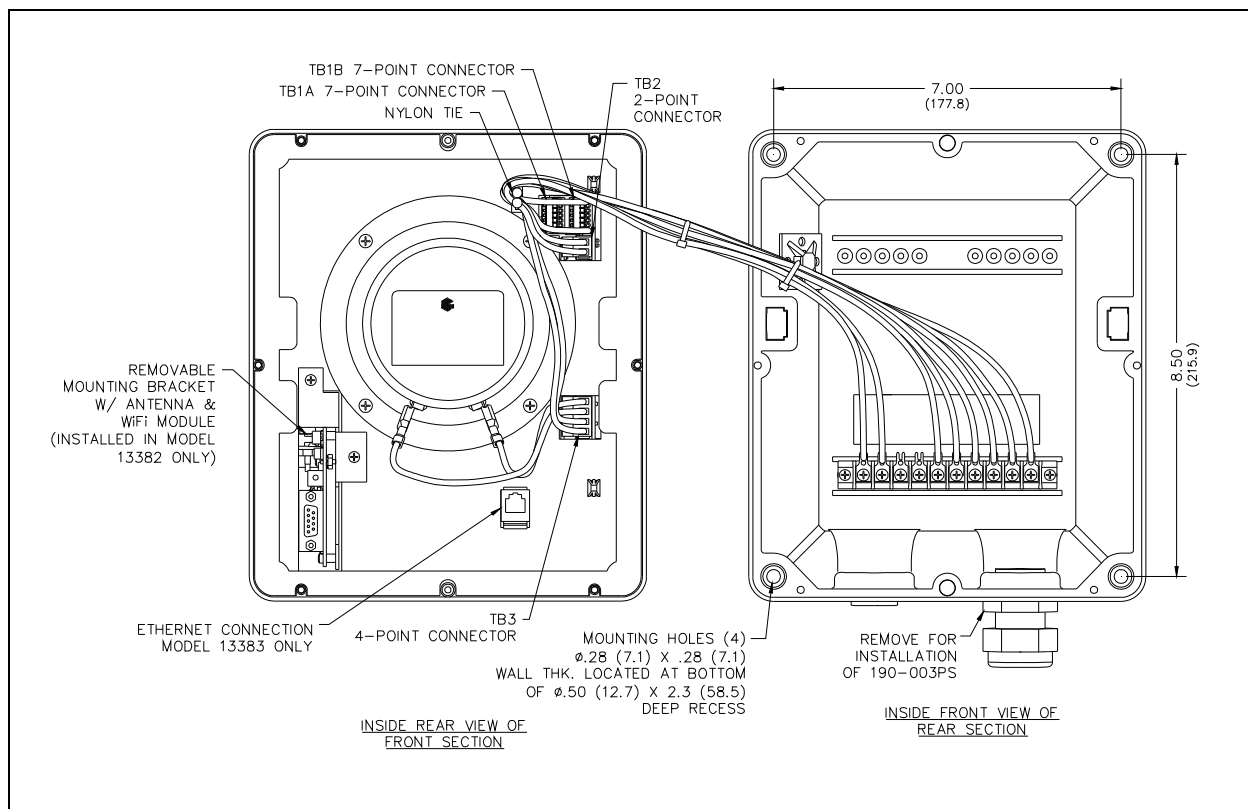

Figure 3. Mounting Detail
The front section can now be completely separated from the rear section (see Figure 3).
4. Mount the rear section to any flat surface using 1/4-inch diameter customer-provided screws in each of the four 0.280-inch mounting holes in the corners of the rear section (see Figure 3 for the mounting hole pattern dimensions).
5. Re-twist the nylon tie to secure the wires (see Figure 3 for wire routing).